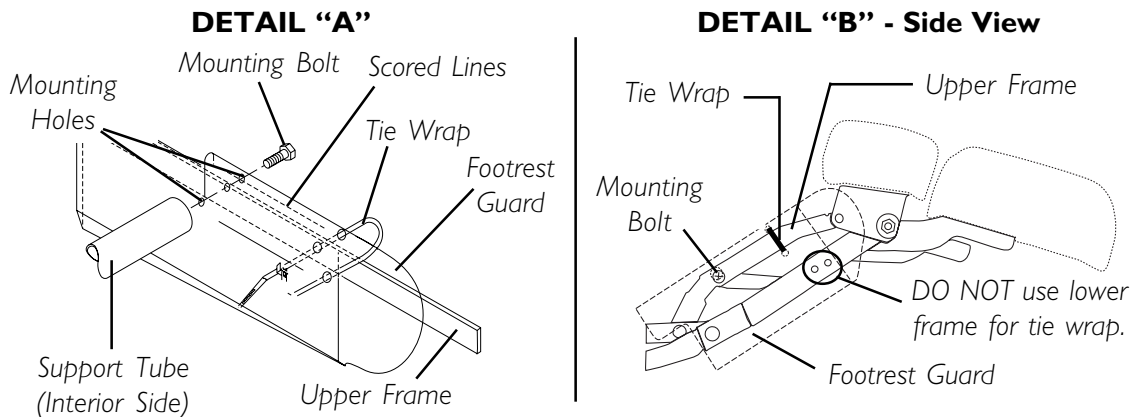

FIGURE 1 - INSTALLING FOOTREST GUARD
FOOTREST GUARD (FIGURE 1)
4. Remove mounting bolt from support tube as shown in DETAIL "A" in FIGURE 1.
5. Install footrest guard around the footrest frame as shown in DETAIL "A" in FIGURE 1.
6. Once folded, align the two (2) mounting holes of the footrest guard with the mounting hole in the upper frame as shown in DETAIL "A" in FIGURE 1.
7. Using the mounting bolt, secure the footrest guard and upper frame to the support tube as shown in DETAIL "A" in FIGURE 1.
8. With a tie wrap, secure the footrest guard to the upper side frame as shown in DETAIL "B" in FIGURE 1.